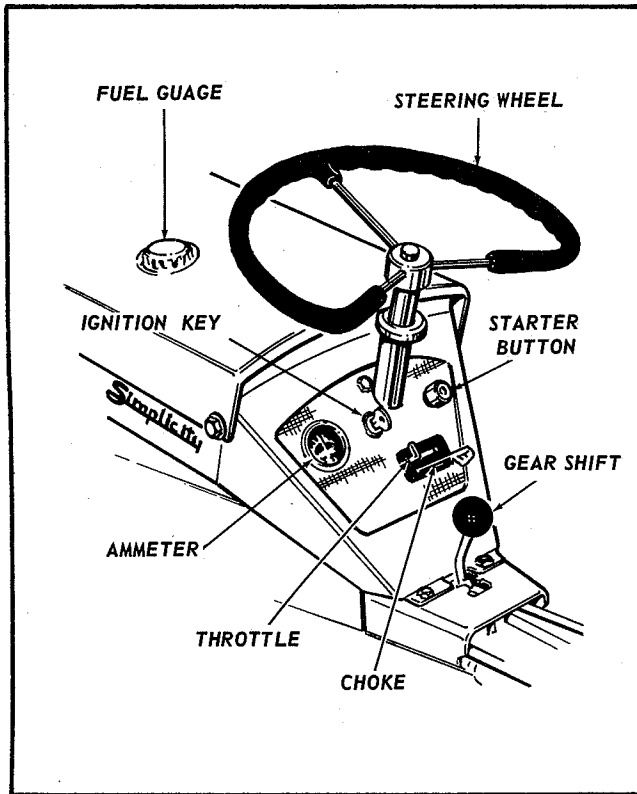
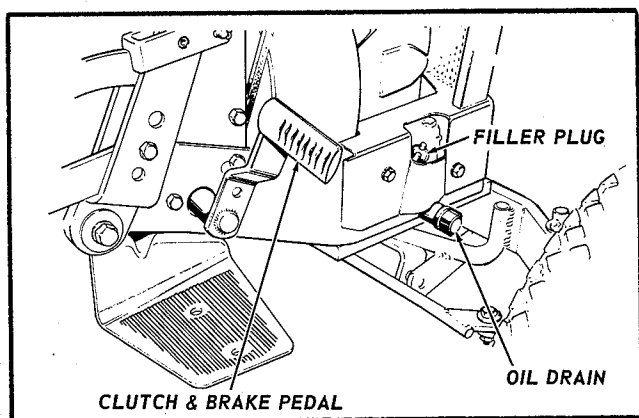

Fig. 12
Fig. 15
Engine - Service air cleaner and crankcase as recommended in engine service manual. Be sure air cleaner is maintained in clean condition. Never use oil in crankcase for more than 25 hours of operation. See figure 15. **CLEAN AIR AND CLEAN ENGINE OIL WILL GIVE LONG TROUBLE FREE OPERATION. DIRT WILL RUIN YOUR ENGINE IN A SHORT TIME.** A funnel and extension are included with the tractor for use in changing oil.
1. Place gear shift lever in neutral position. See figure 12. (Be sure tractor is on level ground and will not roll away in neutral. Apply parking brake.)
2. Place choke lever in "CHOKE" position. See figure 12 & 13.
3. Set throttle lever in mid position and turn ignition key to "ON". See figure 12. Press starter button to start engine and release. As engine warms up, return choke lever to "RUN" position.
1. Place gear shift lever in neutral position. See figure 12. (Be sure tractor is on level ground and will not roll away.)
3. Place choke lever in "CHOKE" position. See figure 12 & 13.
4. Place throttle lever in mid position and turn ignition key to "ON" position. See figure 12.
To place gear shift in desired gear range, depress the combination brake and clutch pedal located on right hand side of tractor. See figure 15. When pedal is depressed move shift lever to desired position (see figure 12) and gradually release pedal until clutch is engaged. When shifting from one range to another, pause briefly in neutral before completing shift. Set throttle lever to obtain desired speed. See figure 12